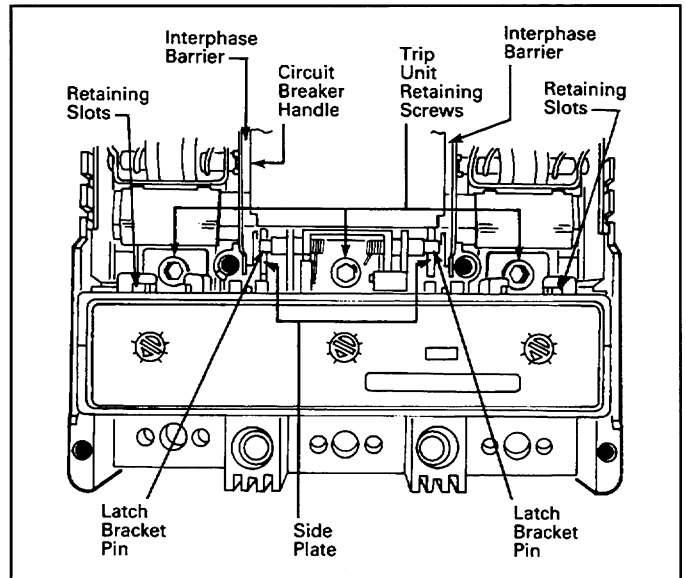

Fig. 2-1 Trip Unit Installed in Circuit Breaker
- 2-3. Position trip unit in base. Make sure latch bracket pin is properly seated in slots in side plates (see Fig. 2-1). If necessary, push circuit breaker handle towards the closed position to help seat trip unit.
- 2-4. Screw in and tighten the trip unit retaining screws in each pole (mechanism pole first). Torque the screws to 10-12 lb-ft 113.56-16.27 N.m) (see Fig. 2-1).